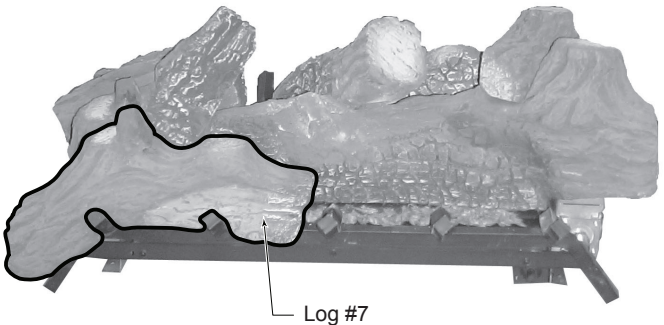

Figure 5.7 - Place Log #7
- Place log #7 on left two (2) grate tines by aligning the 'V' notch in log with grate tines. Make sure groove on bottom of log is firmly seated on grate bar. *Figure 5.7*